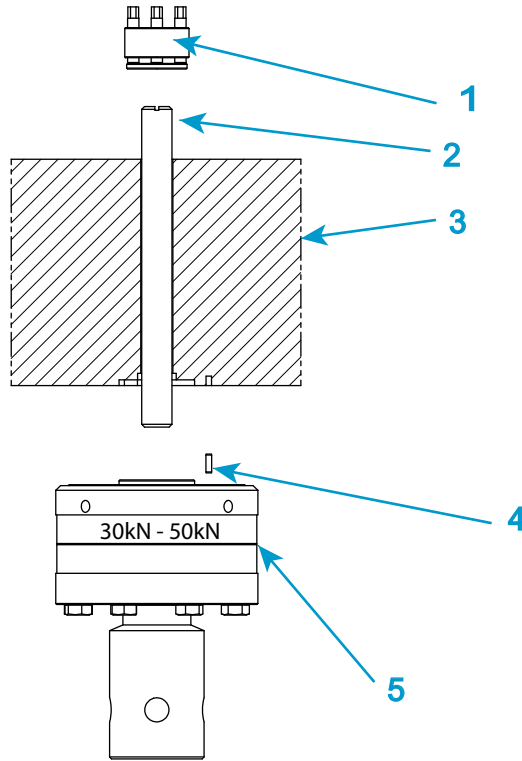

Figure 19. Install a 2530 series load cell - capacities 30kN and 50kN
Legend for Figure 19
1. Refer to Figure 19 on page 79 and its associated legend.